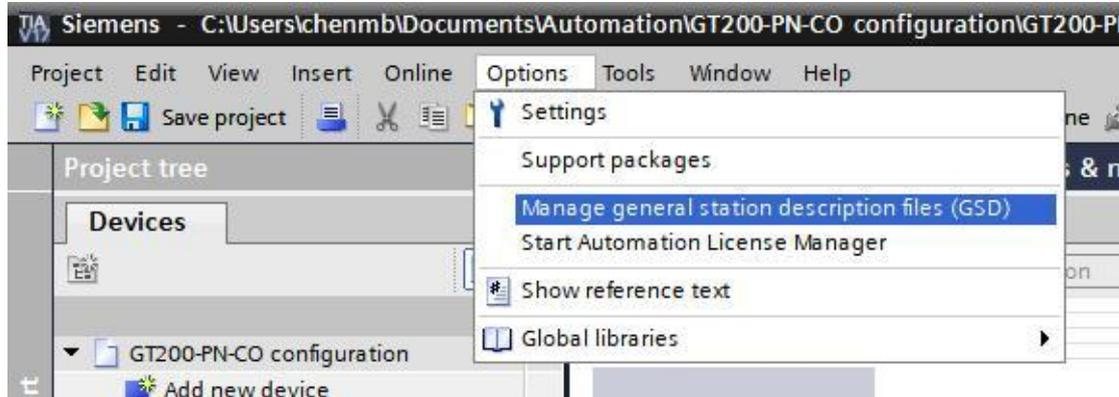

Figure 5: Load the GSDML file
2.1 Menu Options -> Manage GSD, as shown in Figure 5.